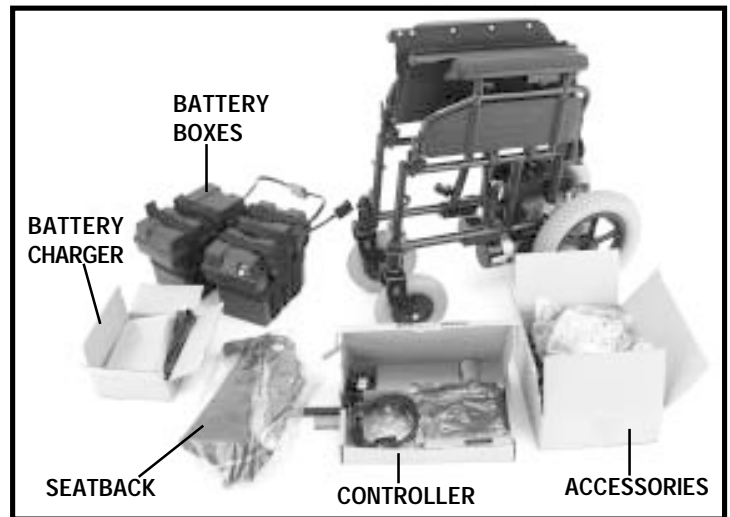

Figure 12. Pride LX Components
The contents of your Pride LX box are as follows: one (1) base assembly, one (1) seatback, two (2) battery boxes, one (1) controller box, one (1) battery charger box and one (1) accessories box. The accessories box contains: one (1) battery frame, four (4) battery tray ball detent pins, one (1) toolkit, six (6) tie-wraps, two (2) anti-tip wheels, and two (2) swing-away leg rests. Remove the components from the shipping box and take inventory. If any parts are missing, contact your authorised Pride Dealer immediately. See figure 12.